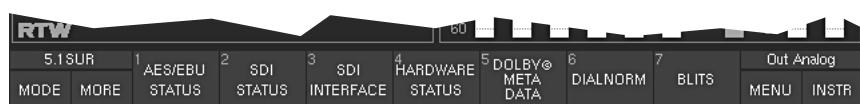

Fig. 3-7: The second Toolbar instrument level (displayed by selecting **MORE**)
2. If you want to choose one of the other seven instruments, press or click the **More** key/button. The buttons numbered 1 to 7 in the Toolbar now show a second level of available instrument types (display modes, see Fig. 3-7).